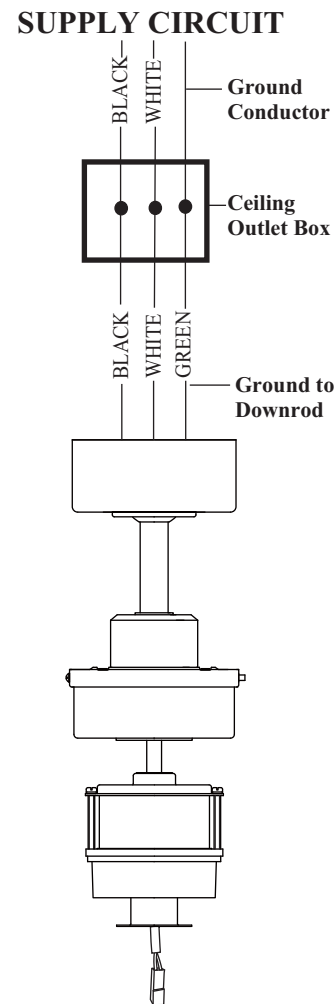

Figure 10
1. Connect the fan supply (black) wire to the black household supply wire (Conductor cable between ceiling and wall outlet box). (Fig. 10)